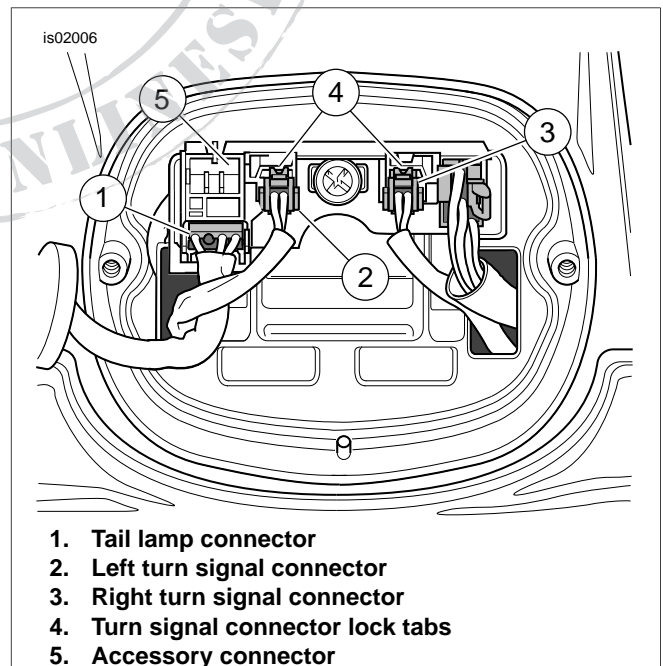
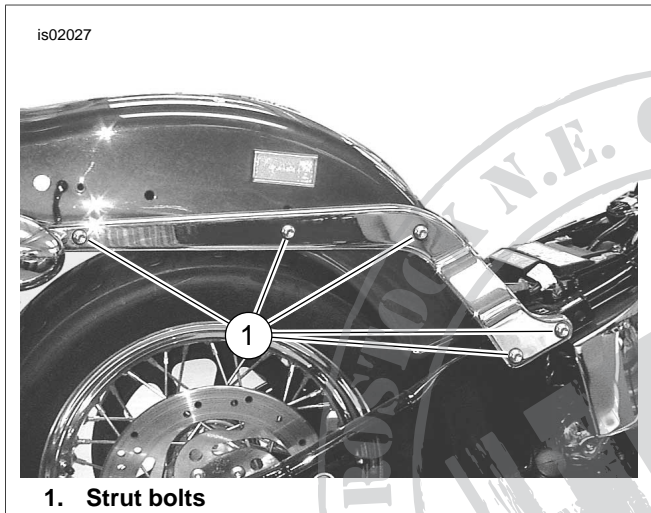
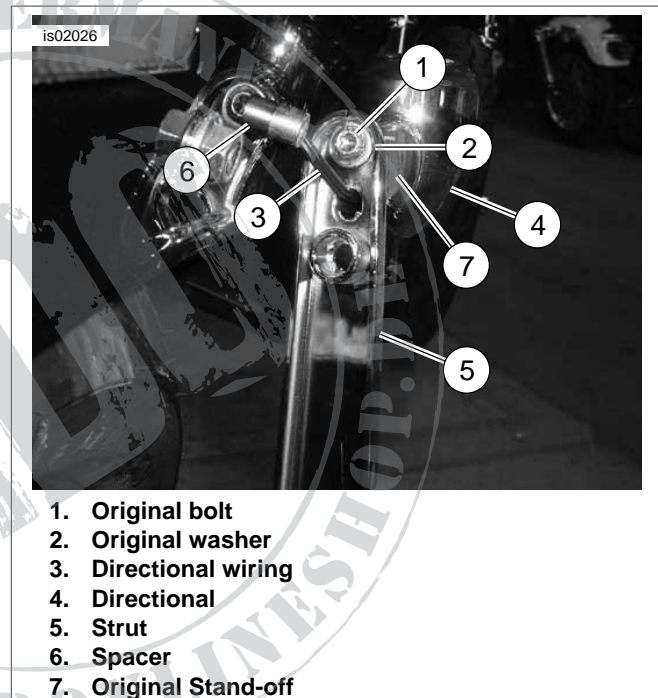

Figure 1. Rear Lighting Connectors (Typical) (Model Without Bobtail Fender Shown)
Figure 2. Strut Mounting Hardware
Figure 4. Mounting Hardware and Components for Turn Signal and Stand-Off
For models with bobtail fender, tail lamp and circuit board are reversed top to bottom from what is shown in Figure 1. On some versions, turn signal connectors may also be reversed, left to right. Note connector position before disconnecting.
3. See Figure 1. Depress the locking tab and disconnect the 4-pin multi-lock tail lamp connector (1) from the circuit board. Set the lens and bulb assembly aside.
4. Depress the locking tabs (4) and disconnect the two 2-pin multi-lock turn signal connectors (2) and (3) from the circuit board.
7. **For Softail models**, see Figure 2. Remove hardware (1) securing right side strut.
8. See Figure 4. Gently pull wiring (3) out through fender and spacer (6). Remove original bolt (1) and washer (2) from strut (5). Remove turn signal (4) and original standoff (7) from strut. Carefully pull signal wire out through standoff. Discard original equipment standoff (7), bolt (1) and washer (2).
11. See Service Parts Illustration. **For Softail model's**, feed turn signal wire through wire hole in support. Mount turn signal and standoff to strut using **new** mounting bolt (3) from kit. **DO NOT** use a flat washer under bolt head.
See Figure 4. Feed the turn signal wire through spacer (6) and the wire hole in the fender. Mount the strut onto the fender. See Figure 2. Align the strut and install bolts (1). Tighten bolts to 21-27 ft-lbs (28.3-36.6 Nm).
12. See Service Parts illustration. **For Dyna model's**, and from the underside, insert the turn signal fastener (2) through the mounting hole in the fender, through the round mounting hole in the turn signal support and into the threaded hole in the turn signal lamp. Verify that the turn signal points straight behind.
17. See Service Parts Illustration. Insert the wires and terminals from the turn signal lamps back into the connectors (B). See Figure 1. Reconnect the 2-pin multi-lock turn signal connectors (2) and (3) to the circuit board.
18. Re-connect the 4-pin multi-lock tail lamp connector (1) to the circuit board. Re-assemble the tail lamp lens to the base with the two screws previously removed.